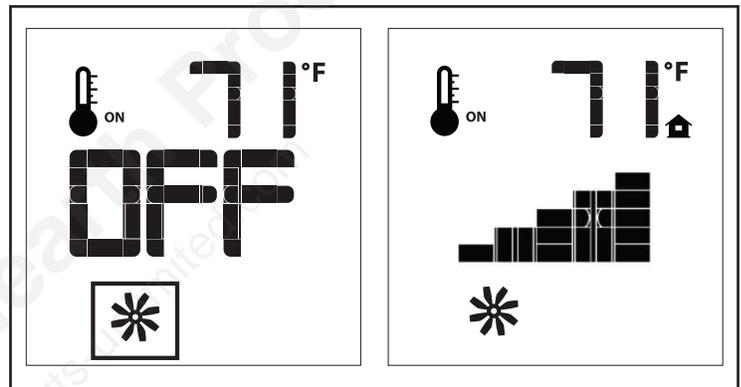

Figure 14: Fan Control
The Berkeley comes with a convection fan that can be controlled with the Transmitter. The fan speed can be adjusted through six (6) speeds. To control the fan press the Mode key (Figure 5) to index to the fan control icon (Figure 14). Use the UP/DOWN arrow keys to turn on, off, or adjust the fan speed (Figure 14). A single beep from the IFC will confirm the command has been received.